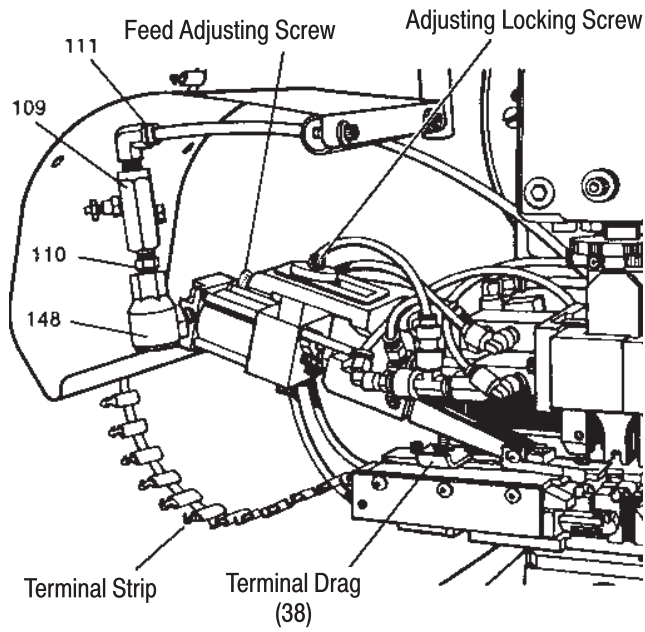

Figure 3
Refer to the applicator assembly drawing and Figure 3 for proper installation of flow control valve, Item 109, and the quick exhaust valve, Item 148.
- Deleted original Figures 3 and 4